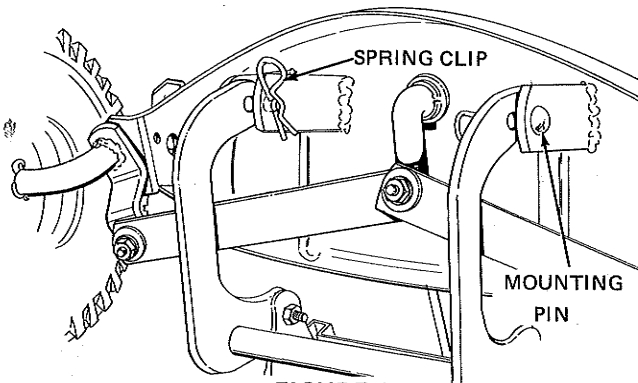

FIGURE 18
3. Remove the front mower hitch mounting pins, (Figure 18) line up the hitch with the forward set of holes on the frame and reinstall the pins.